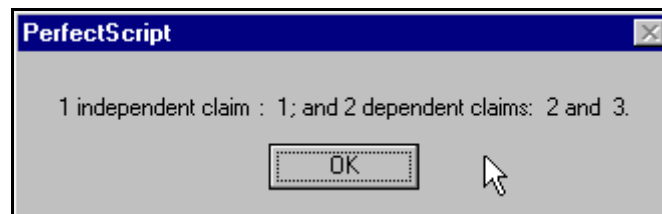

Figure 5-9 Total Independent and Dependent Claims
6. The last message box totals all dependent and independent claims and lists the claim numbers for each type (see Figure 5-9).